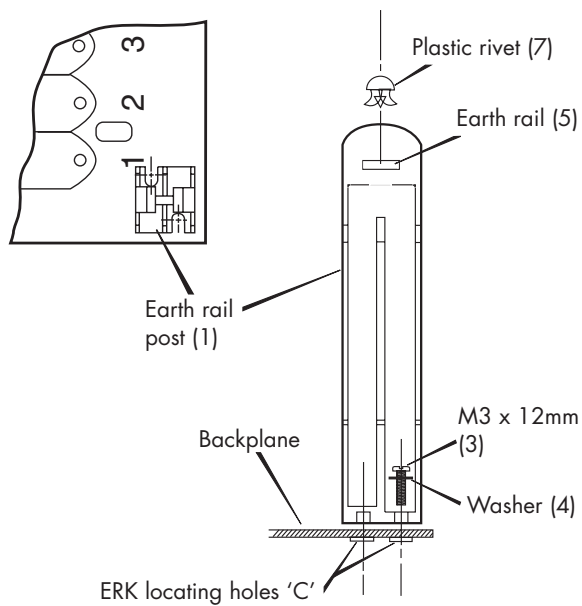

Figure 4.9: Attaching an earth-rail post
- f) If required, swivel the tagging strip vertically (Figure 4.9)
- b) Attach the mounting posts (1) with M3 x 12 screws (3) and washers (4) (Figure 4.9).